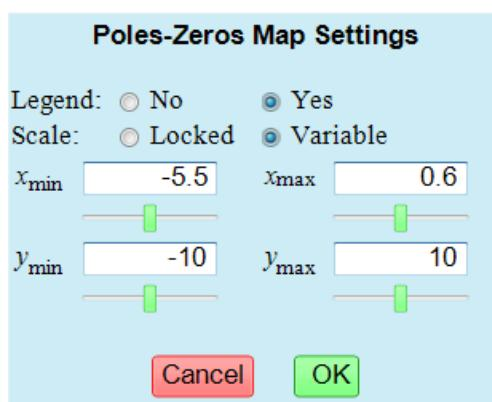

Figure 15. Auxiliary window to poles-zeros map settings
- Settings. It is located in the upper right corner of the zone, and is represented by a gearwheel icon. When the user clicks on this icon, an auxiliary window is shown (see Figure 15). It allows hiding the legend and configuring the scale of the poles-zeros map. The user can select the type of scale by clicking on the corresponding radio button: